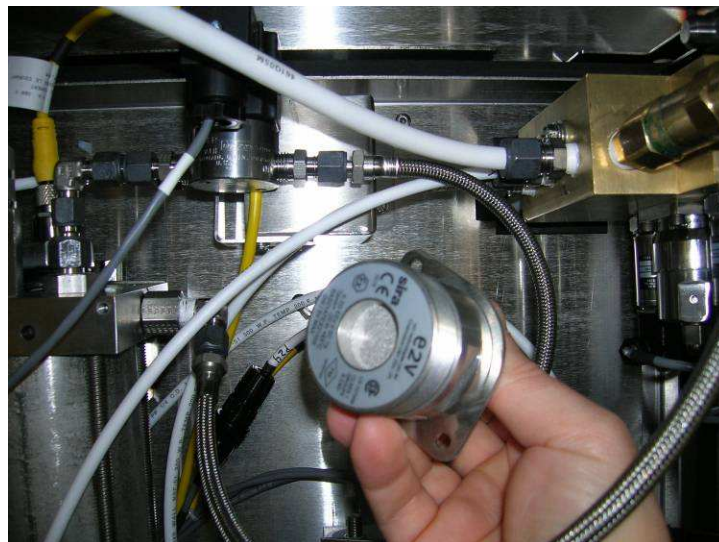

Figure 16 Combustible Gas Sensor Removed
3. Pull the sensor head and plate from the assembly. See Figure 16. Do not disconnect the wiring harness as the sensor needs to be powered to complete the calibration.